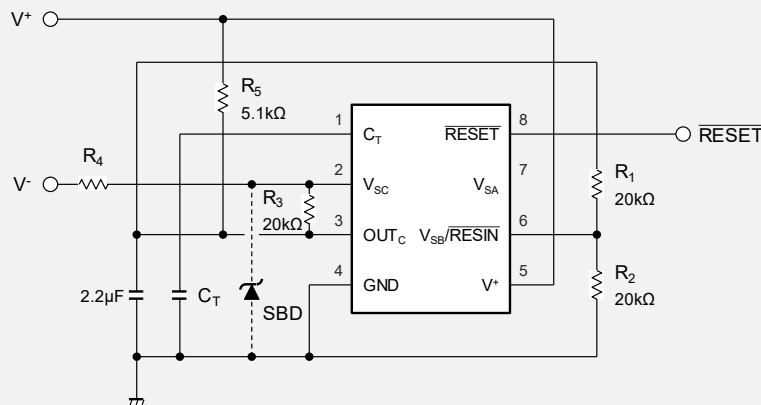

Fig. 10 Positive and negative dual power supply monitoring ( $V^+ = 5V$ ,  $V^- = \text{negative voltage}$ )
- $V^-$  detection voltage is calculated as following formula. In case of resistor value in Fig.10, the detection voltage (falling) is about -4.3V and the detection voltage (rising) is about -4.4V.